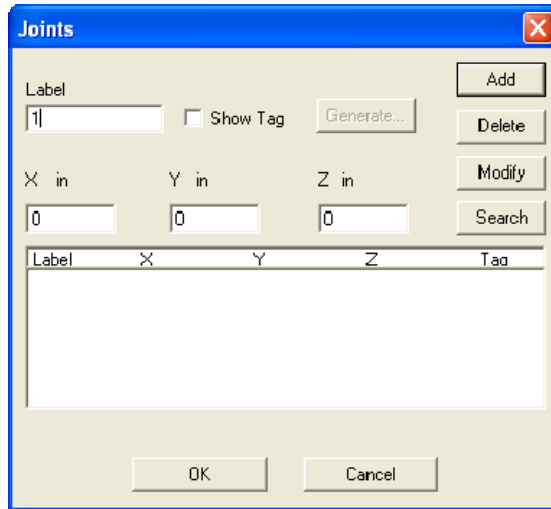

Figure 3-18 Joints dialog box
- From the **Process** menu, select **Joints**. The dialog box of Figure 3-18 appears. Some text boxes may not be available, depending on the structure type selected.